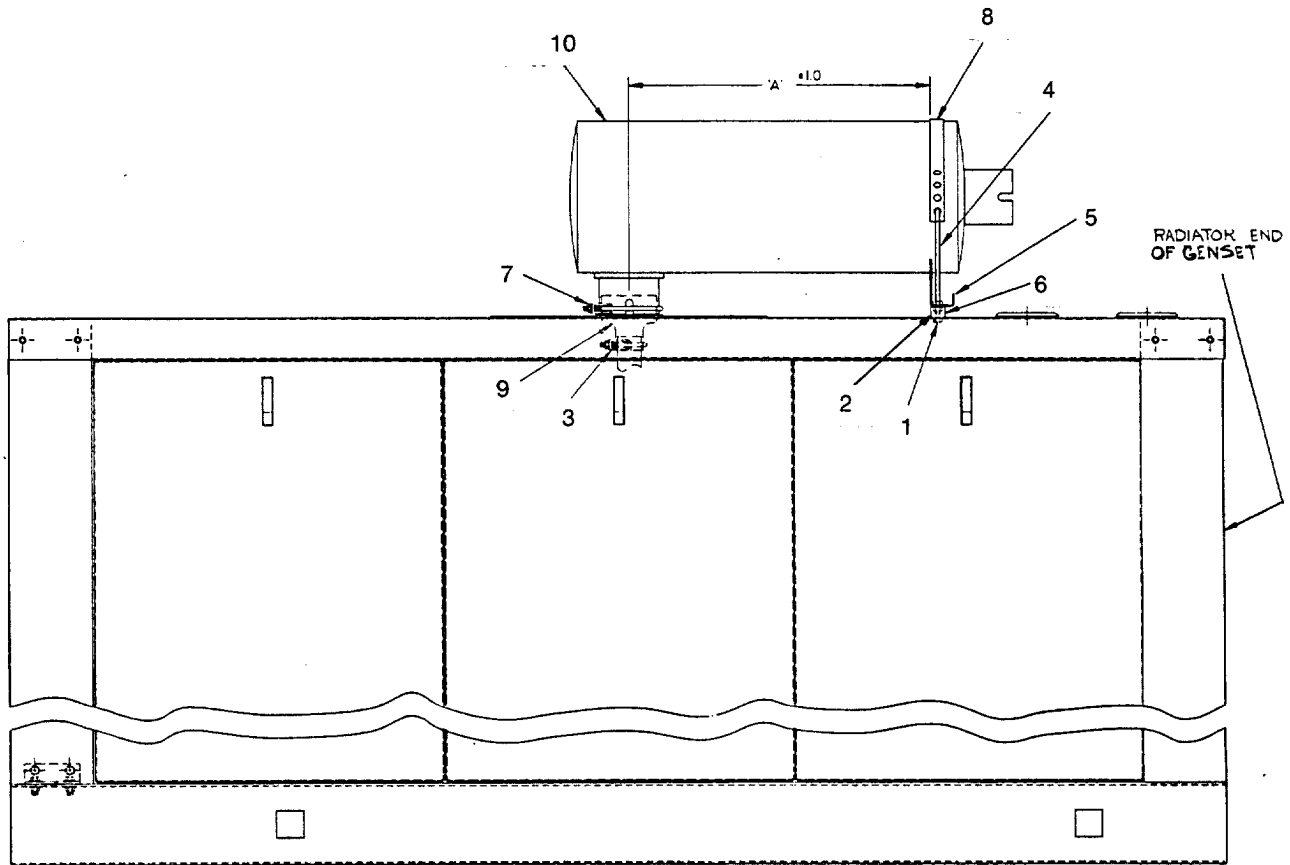

Figure 1. Silencer Mounting
Silencer and exhaust mounting kits are designed for installation on a housed generator set. Use the exhaust mounting kit designed for use with the silencer selected (critical or industrial). Exhaust mounting kits do not include a silencer. Refer to the mounting instructions below and follow all safety precautions in text during installation. See Figure 1 and the parts listing to identify and locate kit components.
5. Position inlet end of silencer (with adapter) over engine exhaust manifold with silencer parallel to long side of generator housing. Place silencer bracket (253310) under silencer and position it approximately 22 in. (550 mm) from center of silencer inlet (industrial silencer only). If installing a critical type silencer, locate silencer bracket approximately 37 in. (925 mm) from inlet (See Figure 1).